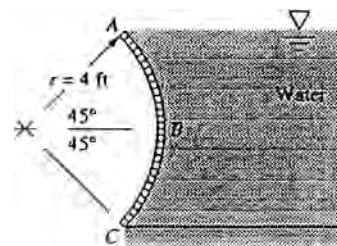

Fig. P2.98
**2.98** Gate ABC in Fig. P2.98 is a quarter circle 8 ft wide into the paper. Compute the horizontal and vertical hydrostatic forces on the gate and the line of action of the resultant force.